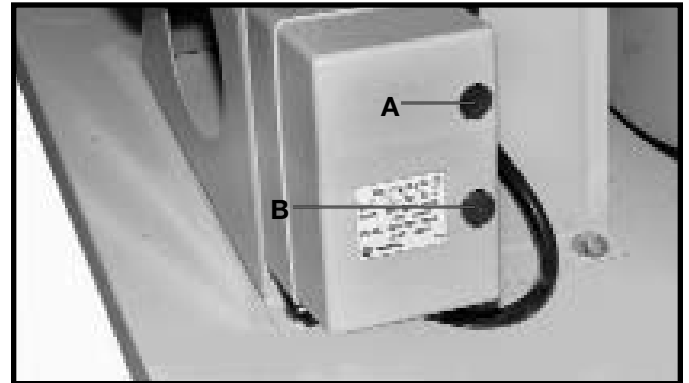

Fig. 37
The “on/off” switch is located on the side of the motor stand. To turn the dust collector “ON”, push button (A) Fig. 37. To turn the dust collector “OFF”, push button (B).